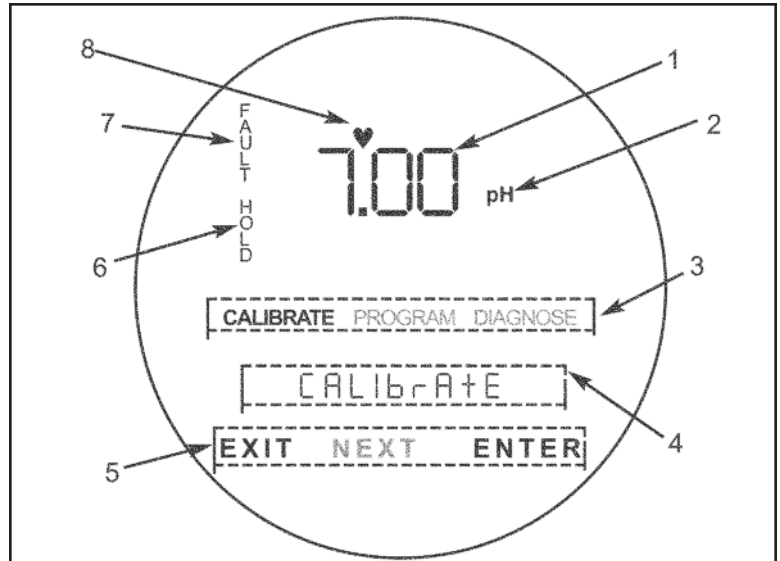

FIGURE 1-1. TRANSMITTER DISPLAY DURING CALIBRATION AND PROGRAMMING
1.4 TRANSMITTER DISPLAY DURING CALIBRATION AND PROGRAMMING (FIGURE 1-1)